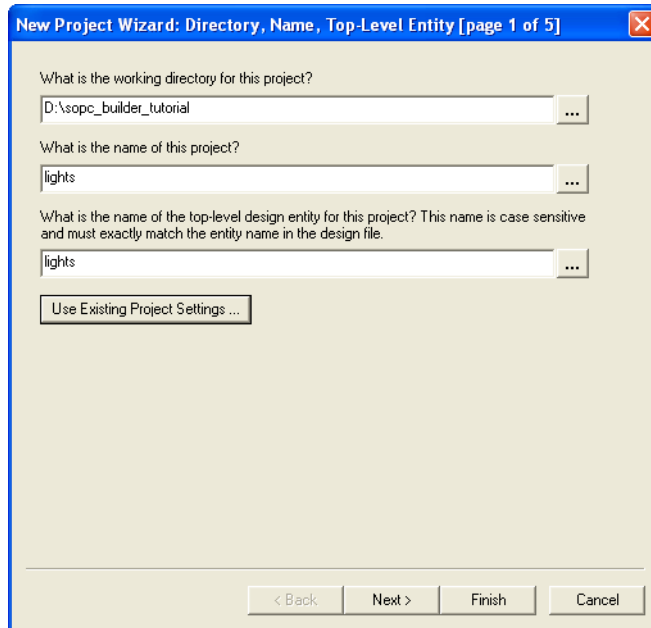

Figure 3. Create a new project.
1. Create a new Quartus II project for your system. As shown in Figure 3, we stored our project in a directory called *sopc_builder_tutorial*, and we assigned the name *lights* to both the project and its top-level design entity. You can choose a different directory or project name, but be aware that the SOPC Builder software does not permit the use of spaces in file names. For example, an attempt to use a directory name *sopc builder tutorial* would lead to an error. In your project, choose the EP2C70F896C6 chip as the target device, because this is the FPGA on the DE2-70 board.